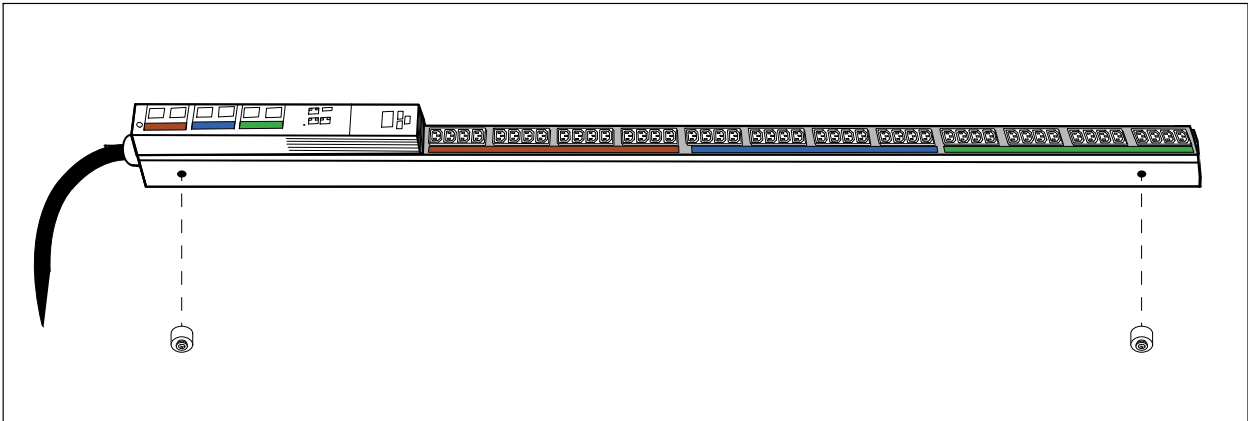

Figure 7. Installing the Deep Mounting Pegs
- 2 Locate the top and bottom peg mounting holes on the side of the rPDU (see Figure 7).
- 4 Secure the top and bottom deep mounting peg with the provided screws (see Figure 7).